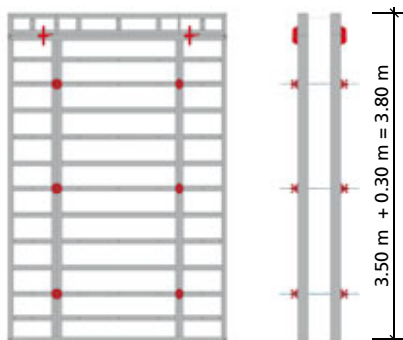

Fig. 33.3
■ When using a panel with a maximum width of 30 cm horizontally for extension and the total formwork does not exceed 3.80 m, (Fig. 33.3), it is not required to install ties in the tie holes of the extended panel as long as the scaffolding bracket is attached to the panel below. However, if the scaffolding bracket is attached to the top panel, a tie must be installed in the top tie holes. The Uni-tie claw in combination with a tie rod and a flange nut 100 can also be used to tie this configuration.